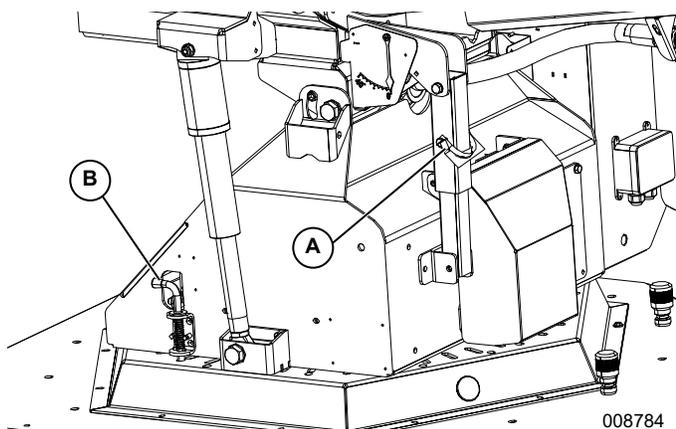

Figure 2-10. Transport Locks
See **Figure 2-10**. Transport locks (A) (B) must be disengaged prior to operation and reinstalled prior to transportation.
3. See **Figure 2-10**. Align holes in actuator supports (A).
4. Insert transport locking pin through holes (A) and secure with cotter pin.
6. Insert transport lock (B) into hole in base.